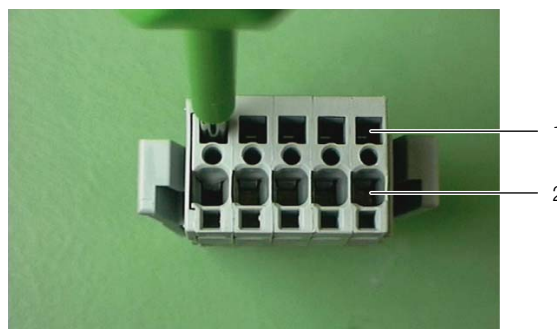

Fig. 78: Connector – rear
- Insert a suitable screwdriver (blade size 3.5 x 0.5 mm) into an activation opening (fig. 78, item 1) and open the corresponding terminal connection of the conductor entry (fig. 78, item 2).